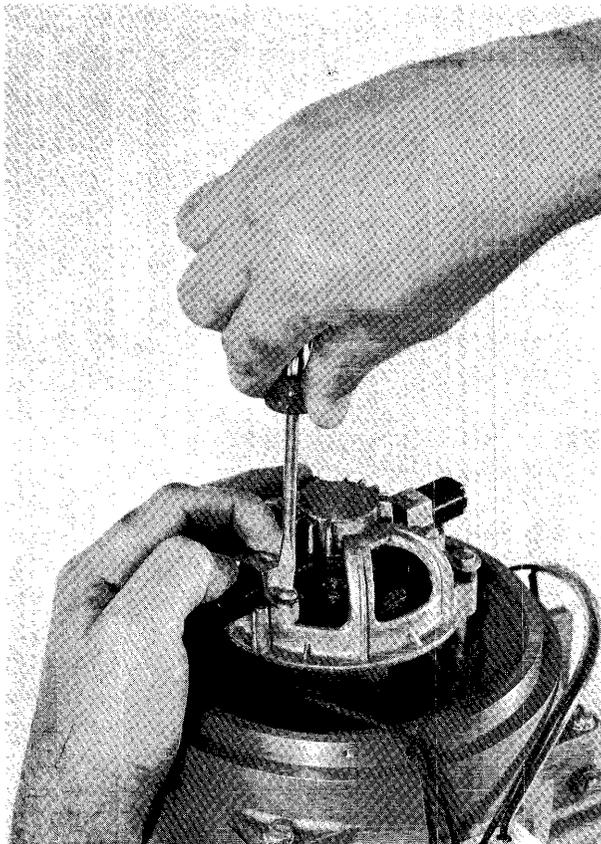

Figure 6-29
Step 2: Remove the brush holder retainer clip by taking out the two screws as shown in Fig. 6-29.